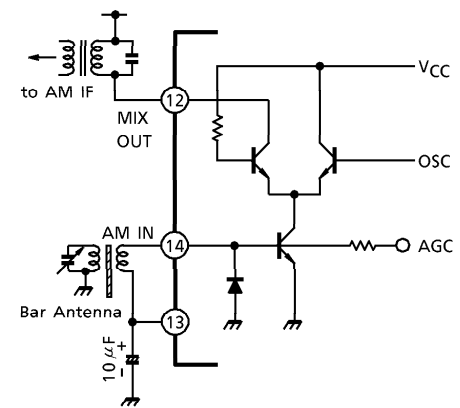

Fig.2
(3) AM input stage
The terminal pin⑭ is the AM input terminal which is the base of common-emitter transistor. And this transistor is the current source of the Mixer which is composed of emitter coupled pair transistors. (Fig.2)
(4) AM-IF input stage